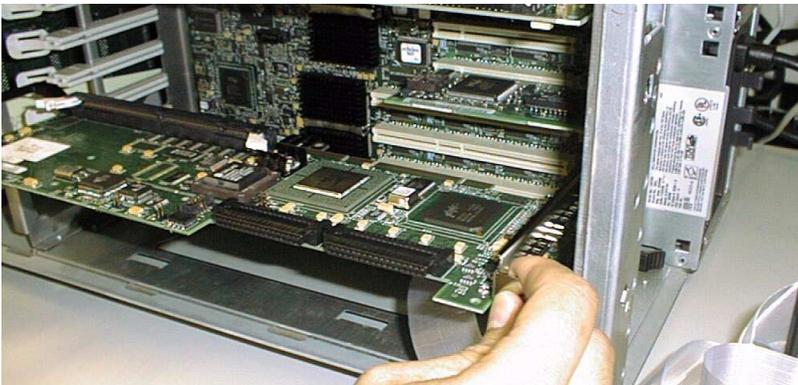

Figure 2-8. Plug the Controller into any 32-bit or 64-bit PCI Slot
4. Plug (install) the controller firmly into any 32-bit or 64-bit PCI slot as shown in Figure 2-8.